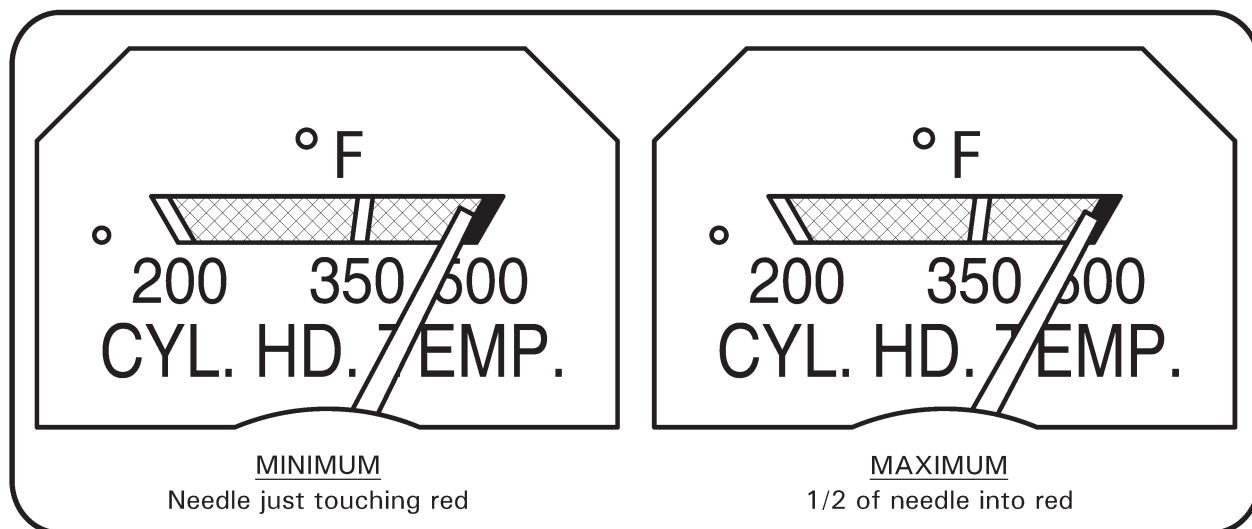

FIGURE 33-3 CYLINDER HEAD TEMPERATURE GAGE CALIBRATION
6. Refer to Figure 33-3. Push in GAGES 2-amp circuit breaker. Turn battery switch on and observe CHT gage. Adjust potentiometer screw on C691-1 circuit board assembly until gage indicates within limits shown with console in closed position (CHT probe resistance is  $32 \pm 0.4$  ohms at  $500^{\circ}$  F).